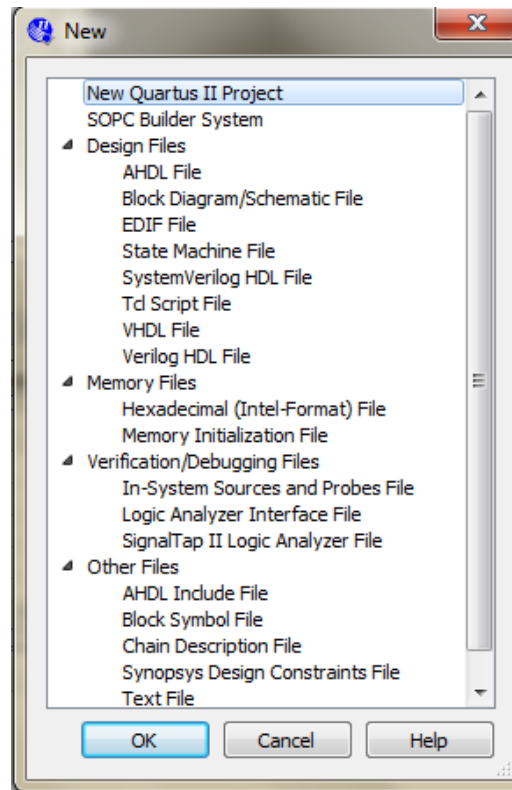

Figure 14. Choosing the new file type.
- Select **File > New** to get the window in Figure 14. Choose **Verilog HDL File** and click **OK**.